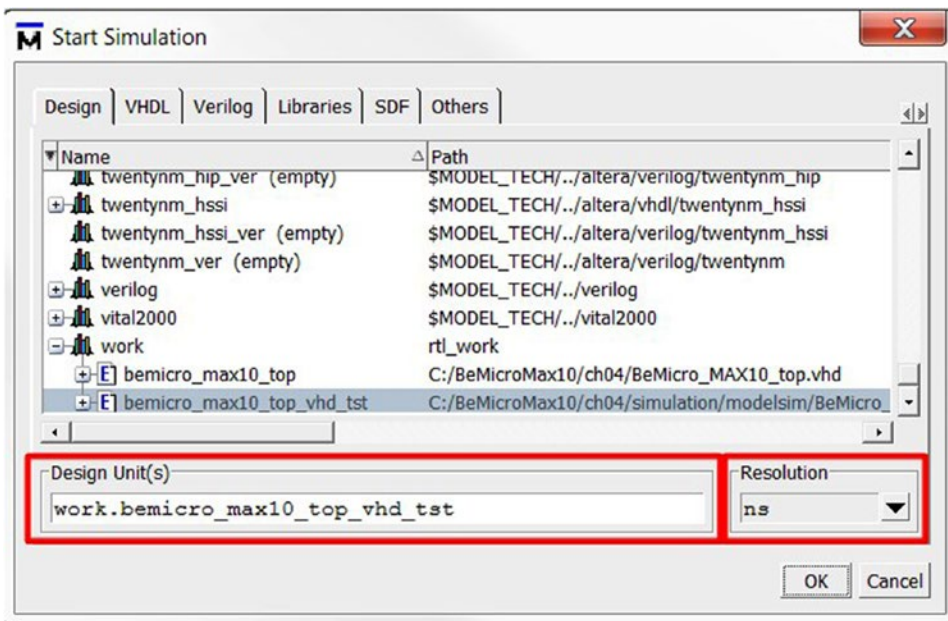
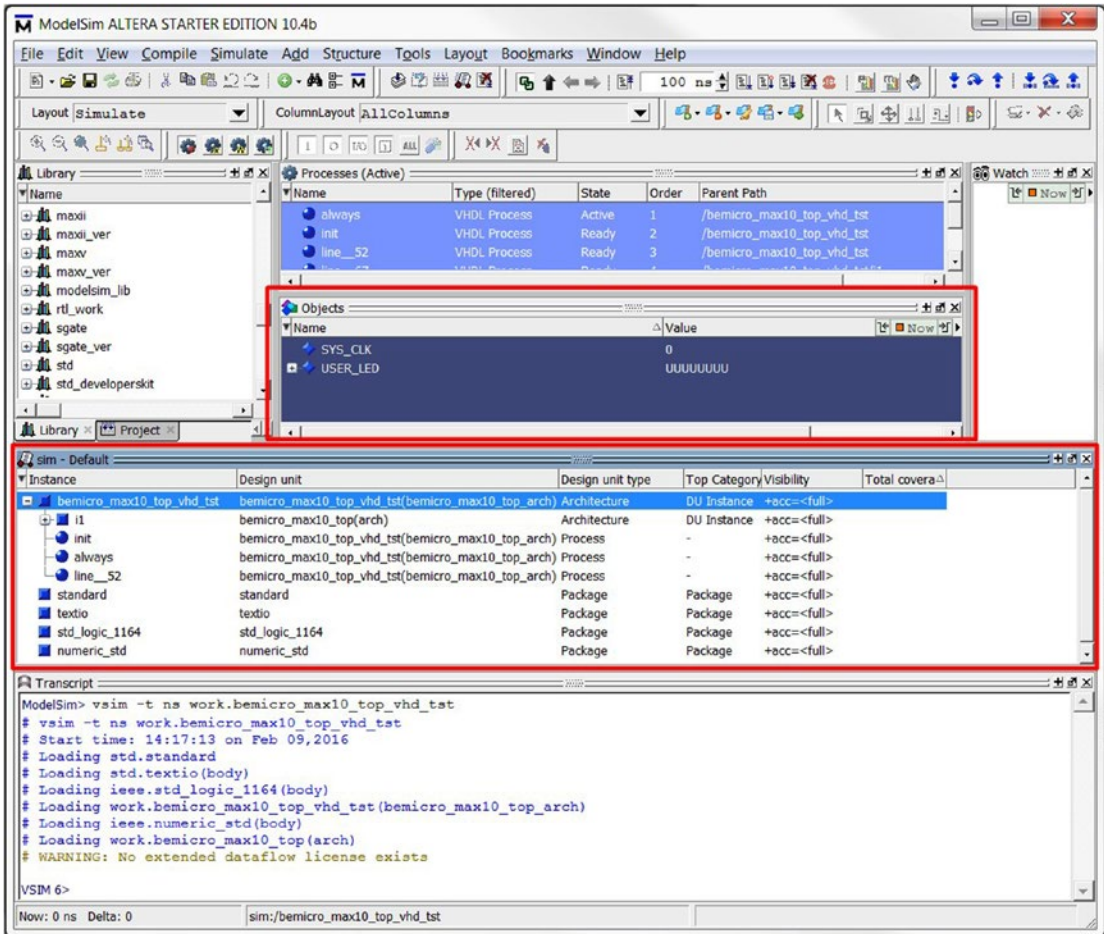

Figure 4-44. Recompile `bemicro_max10_top_vhd_tst`
Figure 4-45. Simulation started
10. Click the “+” icon next to the **work icon**, select **bemicro_max10_top_vhd_tst**, click the black triangle in the resolution box and select **ns**. All the settings should look like those in Figure 4-44 within the red box. Click **OK** to start simulation. The simulation will look like Figure 4-45.
There are two important boxes in the simulation: **Sim-Default** and **Objects**. **Sim-Default** shows the design structure relations. The **Object** box displays the object inside the selected (in the sim-Default) module. Figure 4-45 shows that we selected the test bench module (bemicro_max10_top_vhd_tst) and the object box show two objects: SYS_CLK and USER_LED.